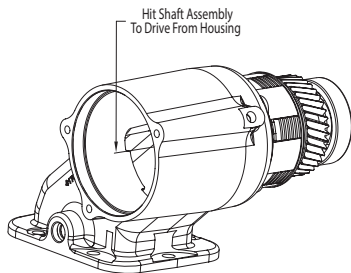
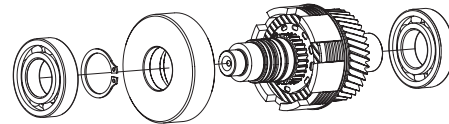

Figure 3 - Output Shaft Drive
Figure 4 - Output Shaft Component's Removal
5. Next, position the housing (23) against a bench block and hit the end of the output shaft (9) with a soft face to remove the entire output shaft assembly from the PTO housing (23). See Figure 3.
6. Using a bearing puller, remove the front bearing (18) from the output shaft (9) and then remove the rear bearing (18) from the output shaft (9).
7. Staying at the rear of the output shaft, remove the snap ring (1) using snap ring pliers while gently pushing on the piston cup (3).
8. Pull the piston cup (3) from the output shaft (9) and the piston (5) will go with it. See Figure 4. PTO housing (23) and place lubricated O-Ring (24) into the groove in the housing located on the output cover (20) side of the PTO housing (23).